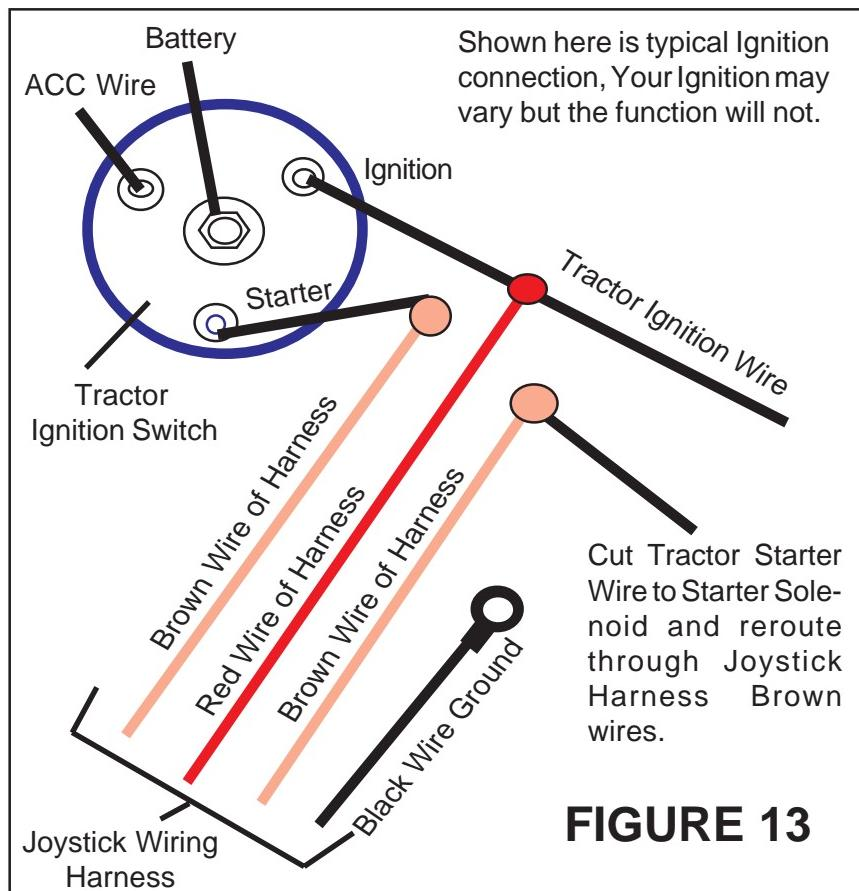

FIGURE 13
7. **Connecting Harness Wires.** There are 4 wires that must be connected inside Tractor. 1. Red Wire (power supply), 1 Black Wire (Ground) and 2 Brown Wires (Neutral Safety Switch). These will have to be spliced into Tractor circuits. (See Figure 13).